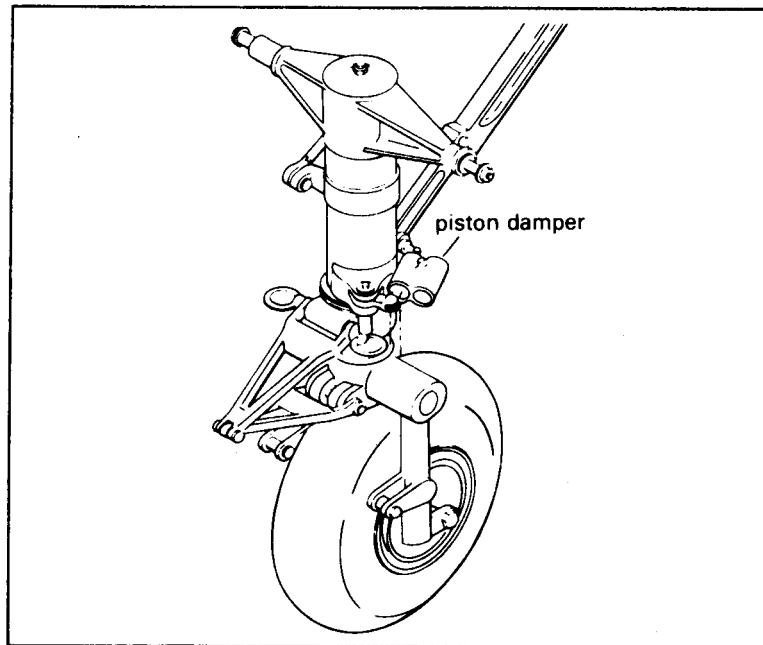

Figure 11-4. Nose landing gear with piston damper.
- **Nose landing gear damper.** The nose landing gear of an aircraft has a tendency to shimmy when the aircraft is taxiing at any appreciable speed. This type damper is used to eliminate wheel shimmy without interfering with the normal steering movements on the nose wheel. (See Figure 11-4.)